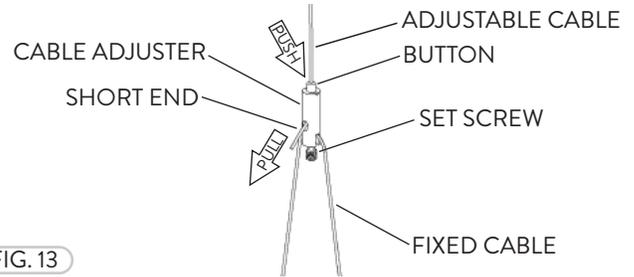

FIG. 13
- 4 The mounting height of the FSWA fixture is adjusted at the Cable Adjuster. This can be done by pushing in the Button on the Cable Adjuster to release the Adjustable Cable and then pulling the short end Cable from the side of the Cable Adjuster to set the length of the Adjustable Cable that is suspended from the ceiling. Remove the Set Screw on the Cable Adjuster using an Allen wrench, insert the Fixed Cable inside the two slotted sides and fasten the Set Screw. This will union the two Cables together (Fig. 13).